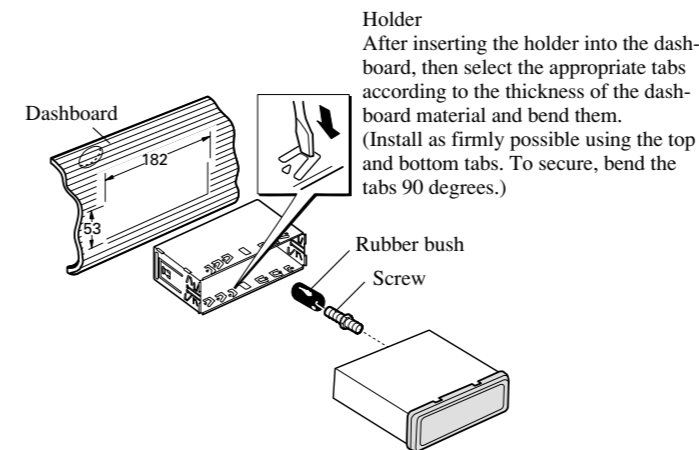

Fig. 5
**Installation with the rubber bush (Fig. 5)**